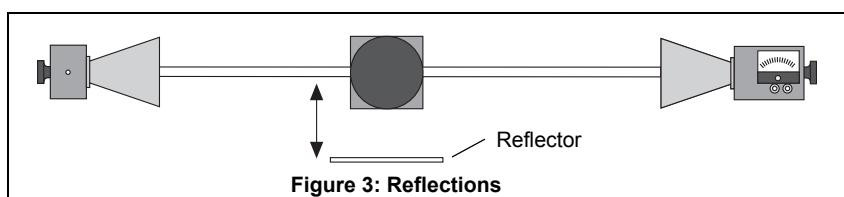

Figure 3: Reflections
6. Set **R** to between 50 and 90 cm. Move a Reflector, its plane parallel to the axis of the microwave beam, toward and away from the beam axis, as shown in Figure 3. Observe the meter readings. Can you explain your observations in steps 5 and 6? (Don't worry if you can't; you will have a chance to investigate these phenomena more closely in other experiments.) For now just be aware of the following: